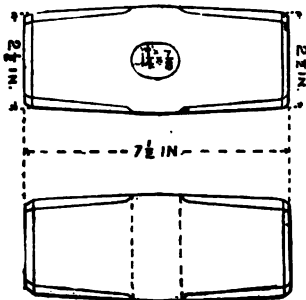

FIG. 3.—SLEDGE—Weight 12 to 13 lbs
**Sledges** (Fig. 3) are 7 1-2 in. long with 2 1-2 in. octagonal face on each end. Oval hole 1 1-4 in.  $\times$  7-8 in. punched in center. Weight about 12 or 13 lbs. From four to eight can be made in a day according as old or new material is used.